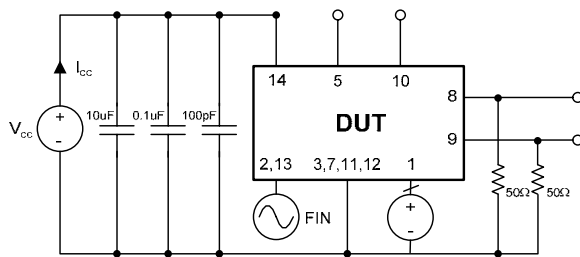

Figure 2. Test Circuit
- Parameters are tested with production test circuit below (Fig 2).